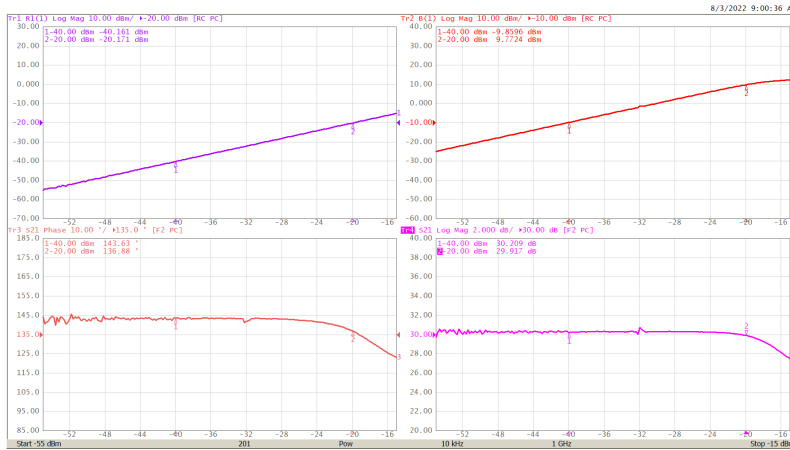

Figure 16 - AM to PM measurement
If the output phase of an amplifier is measured at a particular frequency while sweeping the input power, it is possible to measure AM to PM conversion. The greatest phase changes occur as the output level approaches compression. To do this, power calibration was performed on Port 1, and then Receiver calibration was performed on the Reference receiver of Port 1 and the Test receiver of Port 2 with a thru installed between Ports 1 and 2. The absolute measurement R1(1) accurately gives the input power and absolute measurement B(1) gives the output power. Figure 16 shows a typical measurement. The input and output power, S21 magnitude and phase are all shown. As the output power of the amplifier approaches + 10 dBm there is a significant drop in the phase. If the amplifier were driven with an AM modulated signal with the carrier at + 10 dBm, there would be a significant amount of phase modulation added to the signal.